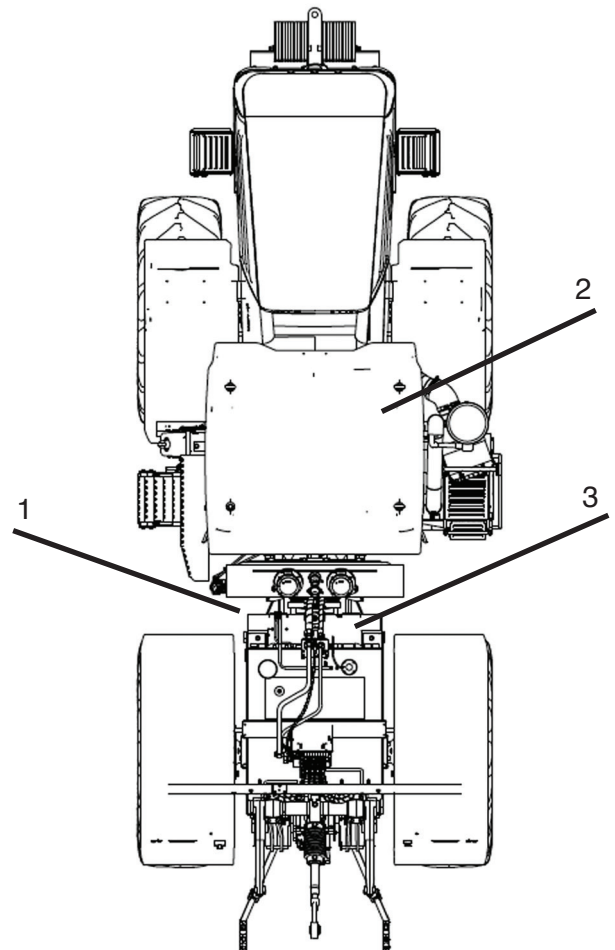

Fig. 4
Tractor consists of front and rear half-frames, which rotate by rotation at the central articulation, pivot (1) see figure 4.
The engine, pump drive reducer (PDR), front axle, transmission, and Cab are on the front half-frame of the tractor (2) see figure 4.
Rear axle, fuel tank, linkage are on the rear half-frame of the tractor (3) see figure 4.